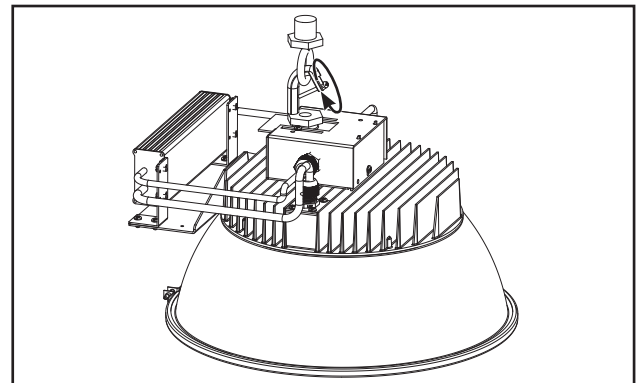

Figure 2.
6. Tighten hook screw until fully seated. (Figure 2)